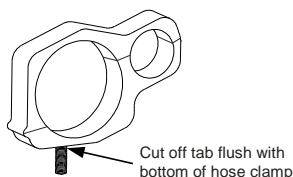

Figure 2.4
- ☐ Remove the plastic front skid plate. Save the bolts as they will be reused later. Disconnect the OEM hose clamp holding the larger radiator hose to the small diameter hose and modify as shown (Figure 2.4) and save for reinstallation later.